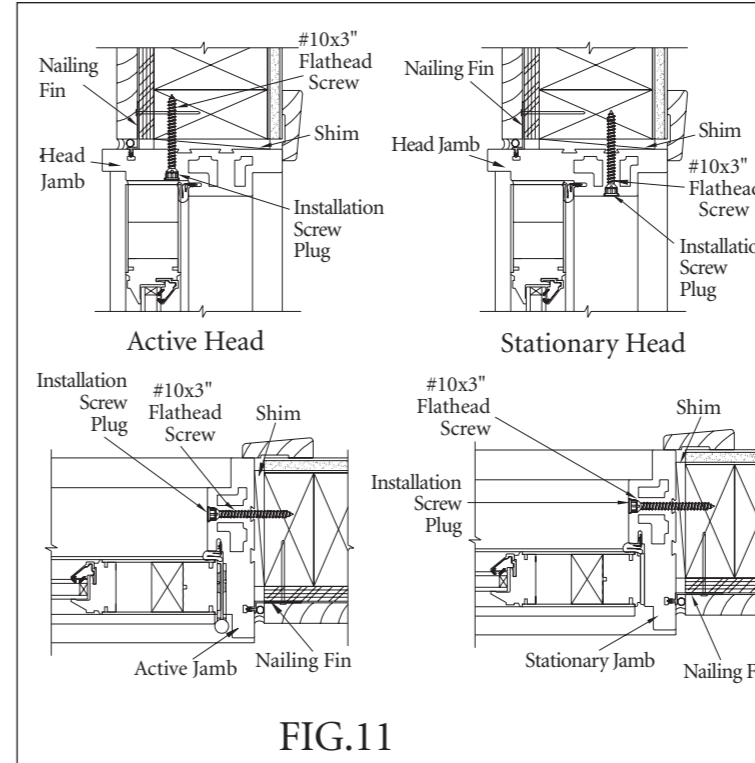
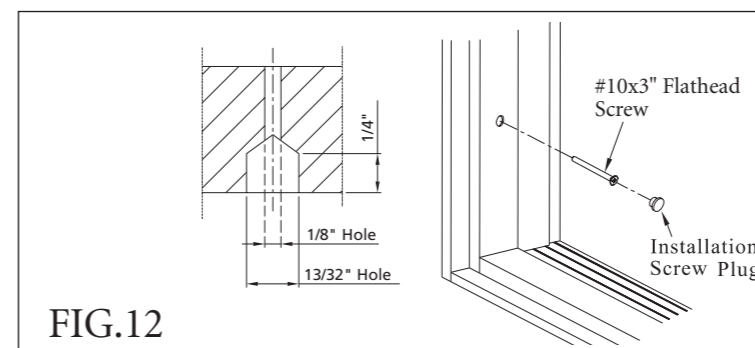

FIG.11
FIG.12
- Use #10 x 3" flat head screw to secure the unit through the pre-drilled pilot holes through jambs. (See Fig.11) If unit is not pre-drilled use 1/8" bit to drill through jambs and studs at shim location. Use 13/32" bit to enlarge pre-drilled holes 1/4" deep into jambs for plug covers. (See Fig.12)